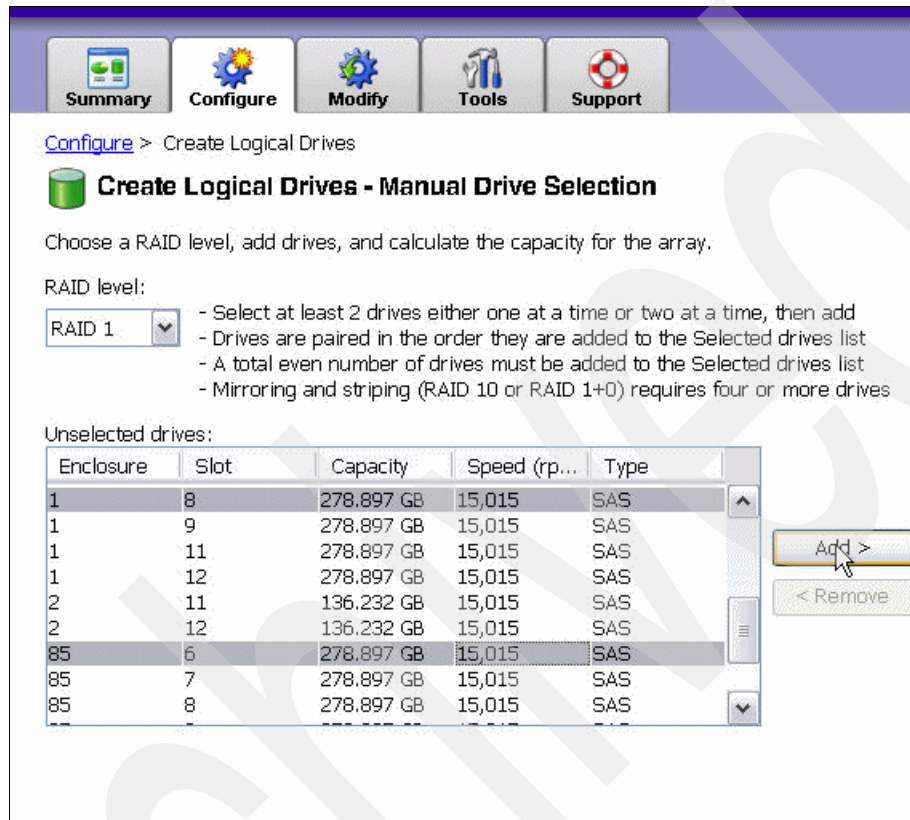

Figure 7-28 Select drives for RAID-10
- In the Create Logical Drives - Manual Drive Selection window we select RAID level RAID-1. We select the a disk drive in enclosure 1, slot 8, and a drive in enclosure 85, slot 6, and click **Add**, as shown on Figure 7-28.